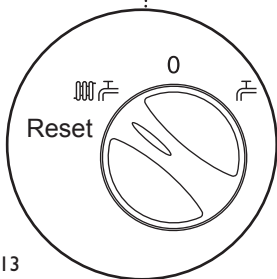

Fig. 13
1. With the selector switch in either Position (i) or Position (ii) (Figs. 13 & 14) the pump will automatically operate for 1 minute in every 24 hours to prevent sticking.